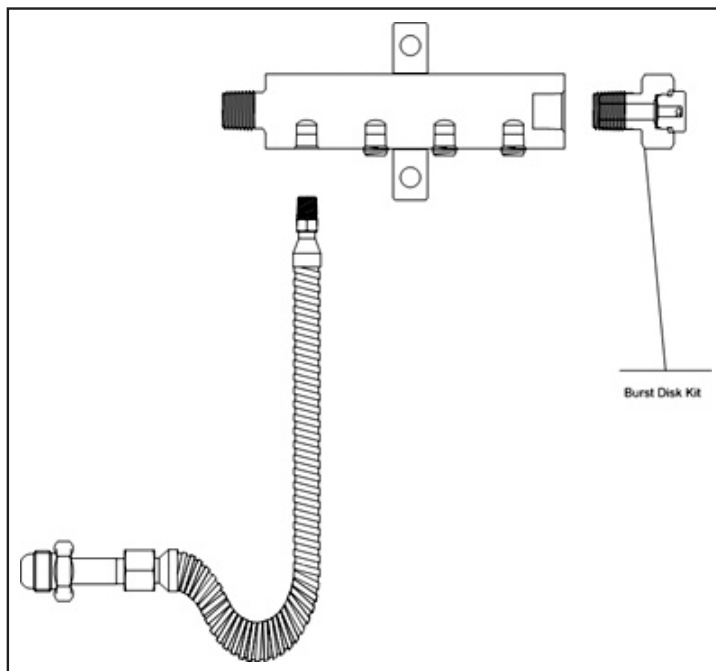

Figure 5 - Gas Manifold
5. Tape the ½" MPT thread on the burst disk kit illustrated in Figure 5.
15. Install the pigtail into the MicroManifold ¼" FPT port as illustrated in Figure 5.